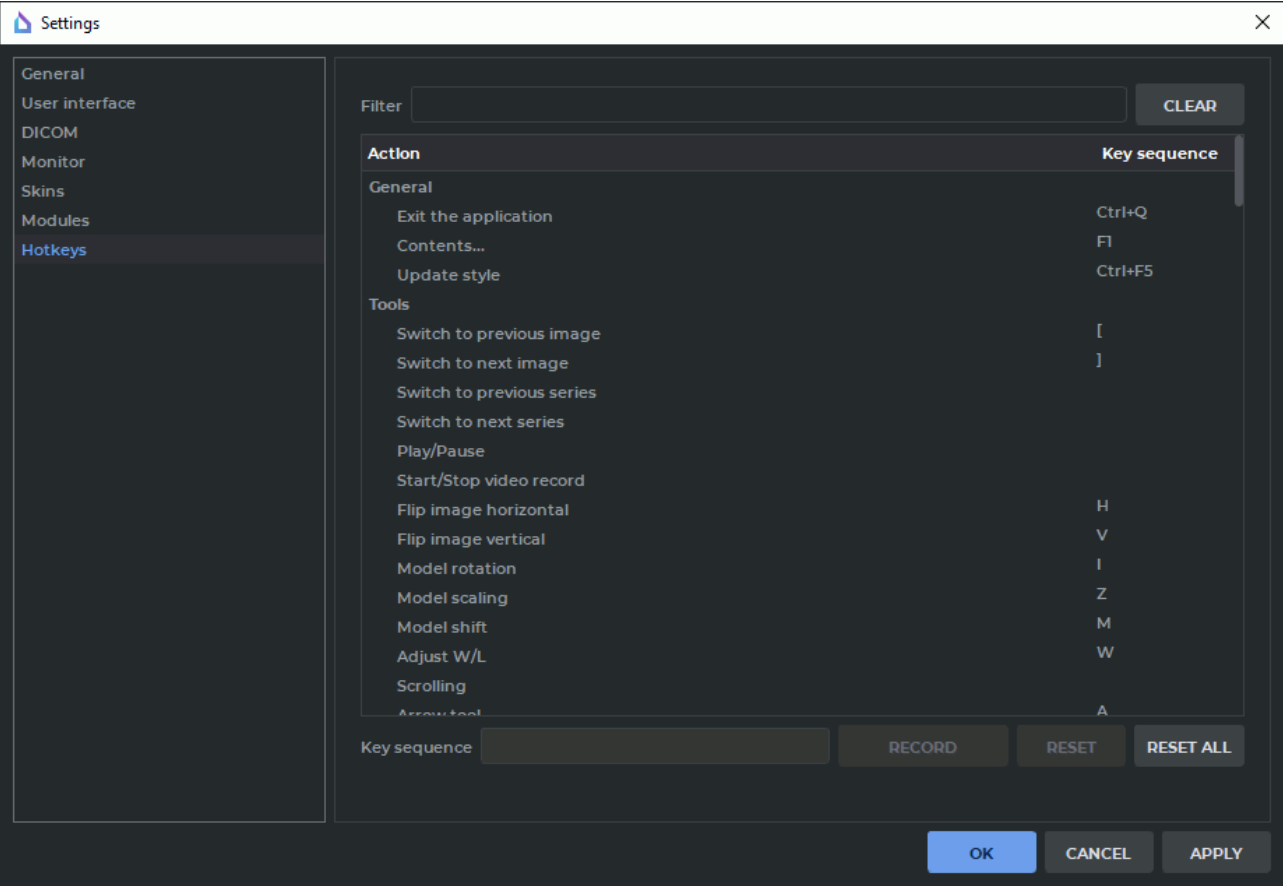

Figure 15.4: Hotkeys
2. Open the **Hotkeys** section. The window similar to the one shown in Fig. 15.4 will pop up.